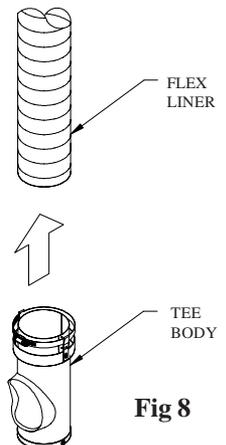

Fig 8
Step 1. If a tee is required, and the masonry chimney has no offsets, remove Tee Branch and attach the body of the Tee to the Flex Liner as shown in **Figure 8**, and tighten the fast connect band. Attach a rope securely to the body of the Tee (wrapping rope tightly above branch area or around indented section of tee) and proceed as described in Step 4 of the Basic DuraFlex SS Liner Installation section.